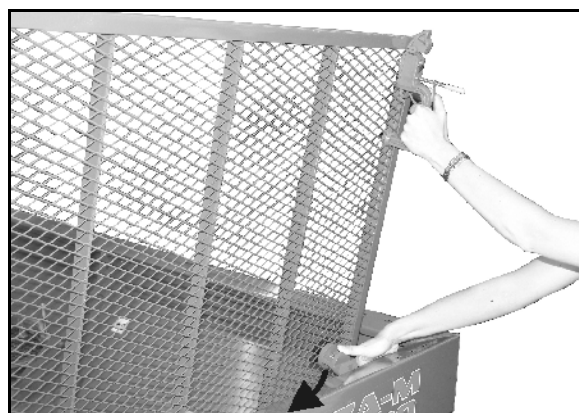

Fig. 17
3. Swing up guard screen until the lock on the edge of the hopper engages (Fig. 17).
- Before closing the guard screen, push down the lock (Fig. 17).